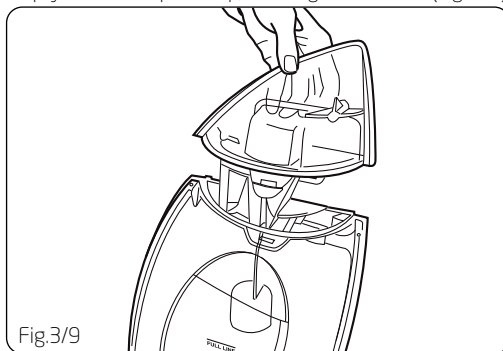

Fig. 3/9
Remove any debris that has collected on lint filter (A) on cleaner body. Once clear, place bottom of tank onto cleaner. Pivot top of tank and snap in place (Fig. 3/10).